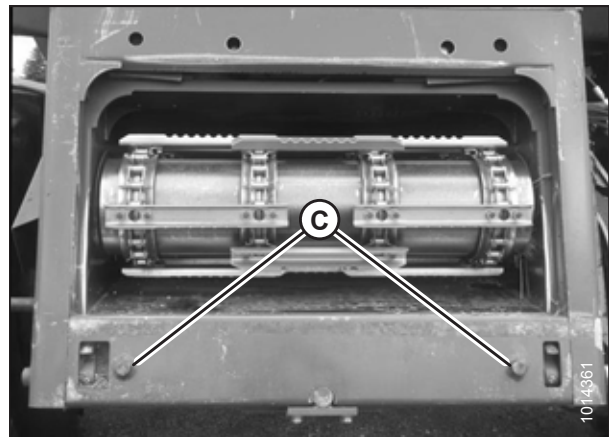

Figure 5.3: AGCO Group Alignment Pins
3. Start the engine and slowly approach the header until the feeder house is directly under float module top cross member (A) and alignment pins (C) (refer to Figure 5.3, page 118) on the feeder house are aligned with holes (B) in the float module frame.